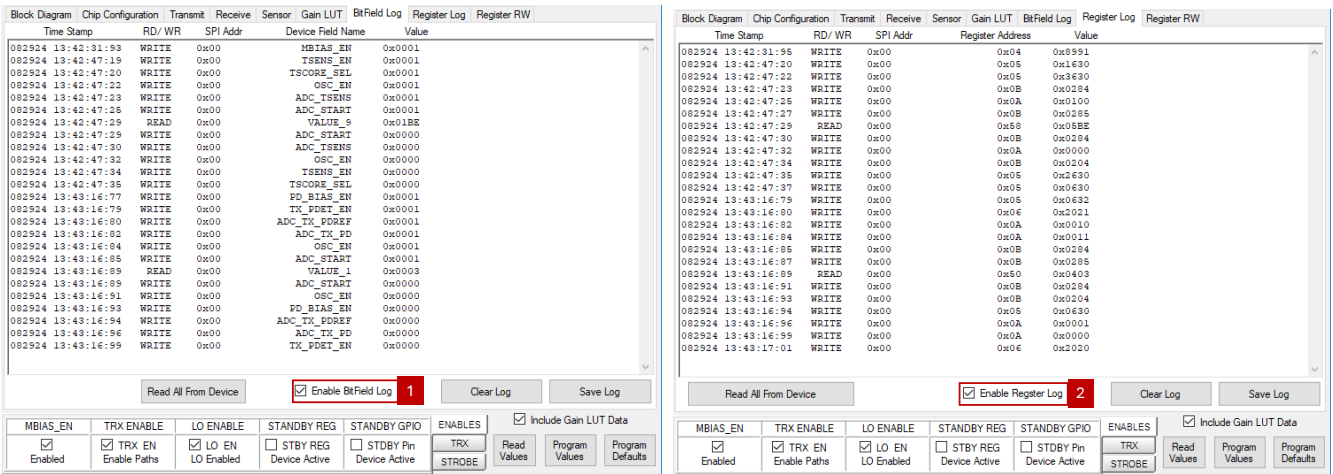

Figure 7. BitField Log and Register Log Panels
**Important:** The **Enable BitField Log** and **Enable Register Log** checkboxes (Figure 7, items 1 and 2) must be selected beforehand. The **BitField Log** and **Register Log** panels will also keep track of all the SPI write commands.